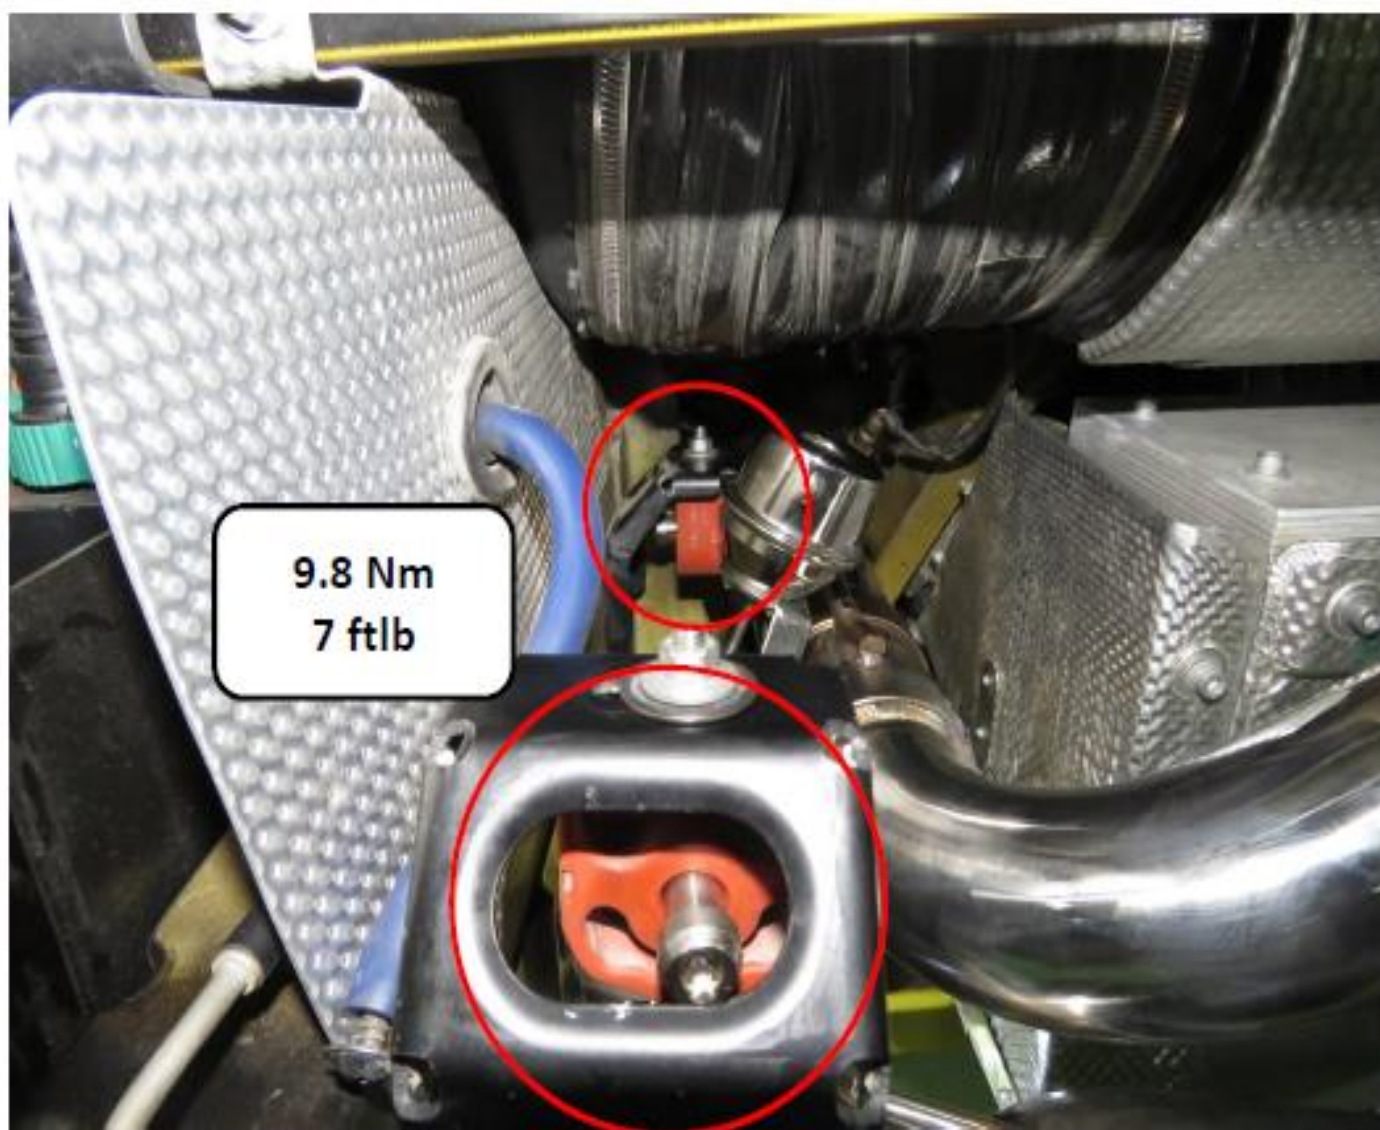

figure 18
2. Install the lifting lugs on both sides of the iPE muffler to the positioning (Figure 18)